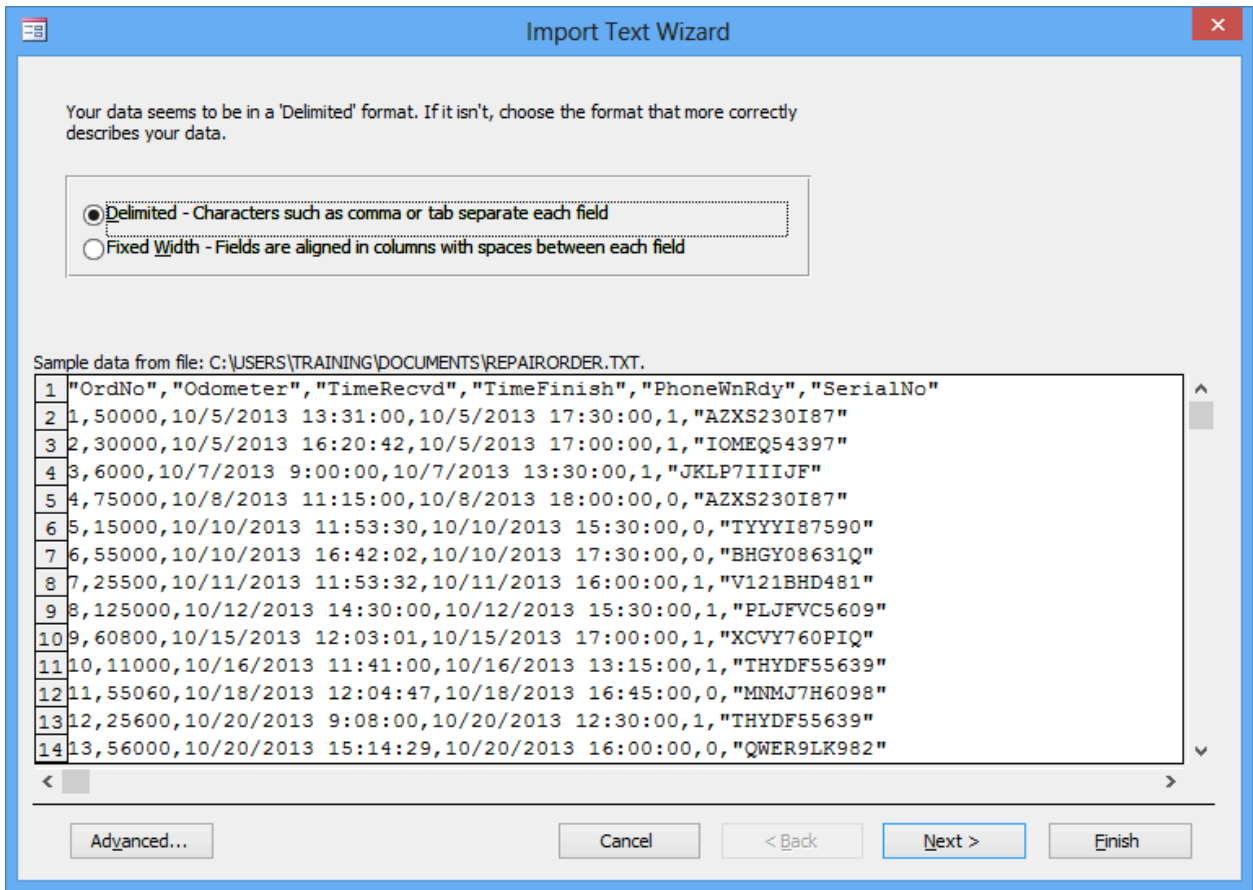

Figure 33: Data Format Window of the Get External Data Wizard for Text Files
- In the next window (Figure 33), choose "Delimited" and click the **Next** button.
4. Select the Data Format Option: In the next window, choose "Delimited" and click the **Next** button. This is similar to what you did in (Figure 33).